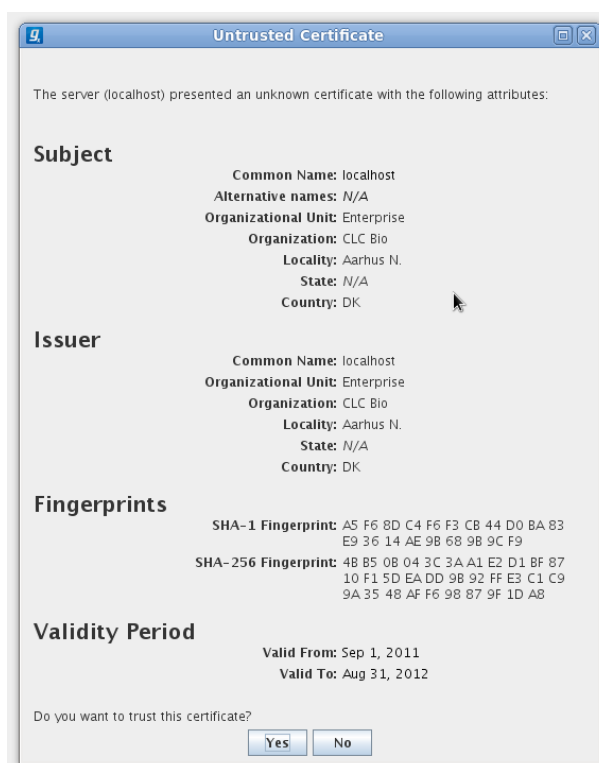

Figure 17.1: A warning is shown when the certificate is not signed by a recognized CA.
If SSL is detected, the server's certificate will be verified and a warning is displayed if the certificate is not signed by a recognized Certificate Authority (CA) as shown in figure 17.1.